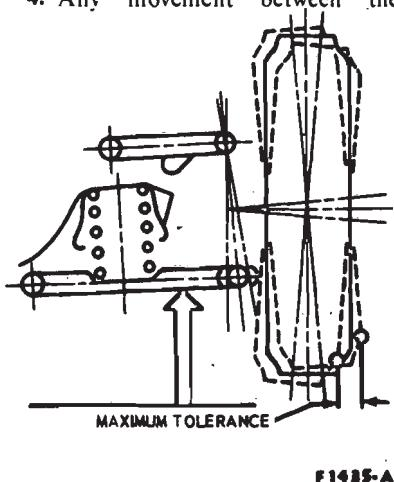

FIG. 14—Measuring Lower Ball Joint Radial Play
1. Raise the vehicle and place jacks under the lower arms as shown in Fig. 14. This will unload the lower ball joints.
4. Grasp the tire at the top and bottom and slowly move the tire in and out (Fig. 14). Note the reading (radial play) on the dial indicator. If the reading exceeds specifications, replace the lower ball joint.